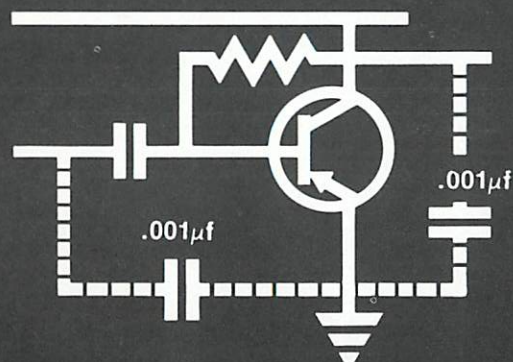

Fig. 18
1. Interference in transistor equipment can usually be eliminated with the use of a shunt capacitor as shown in Figure 18. A resistor/capacitor combination can be used as shown in Figure 19. It is important that the filter network does not affect the biasing of the transistor or the frequency response of the amplifier.